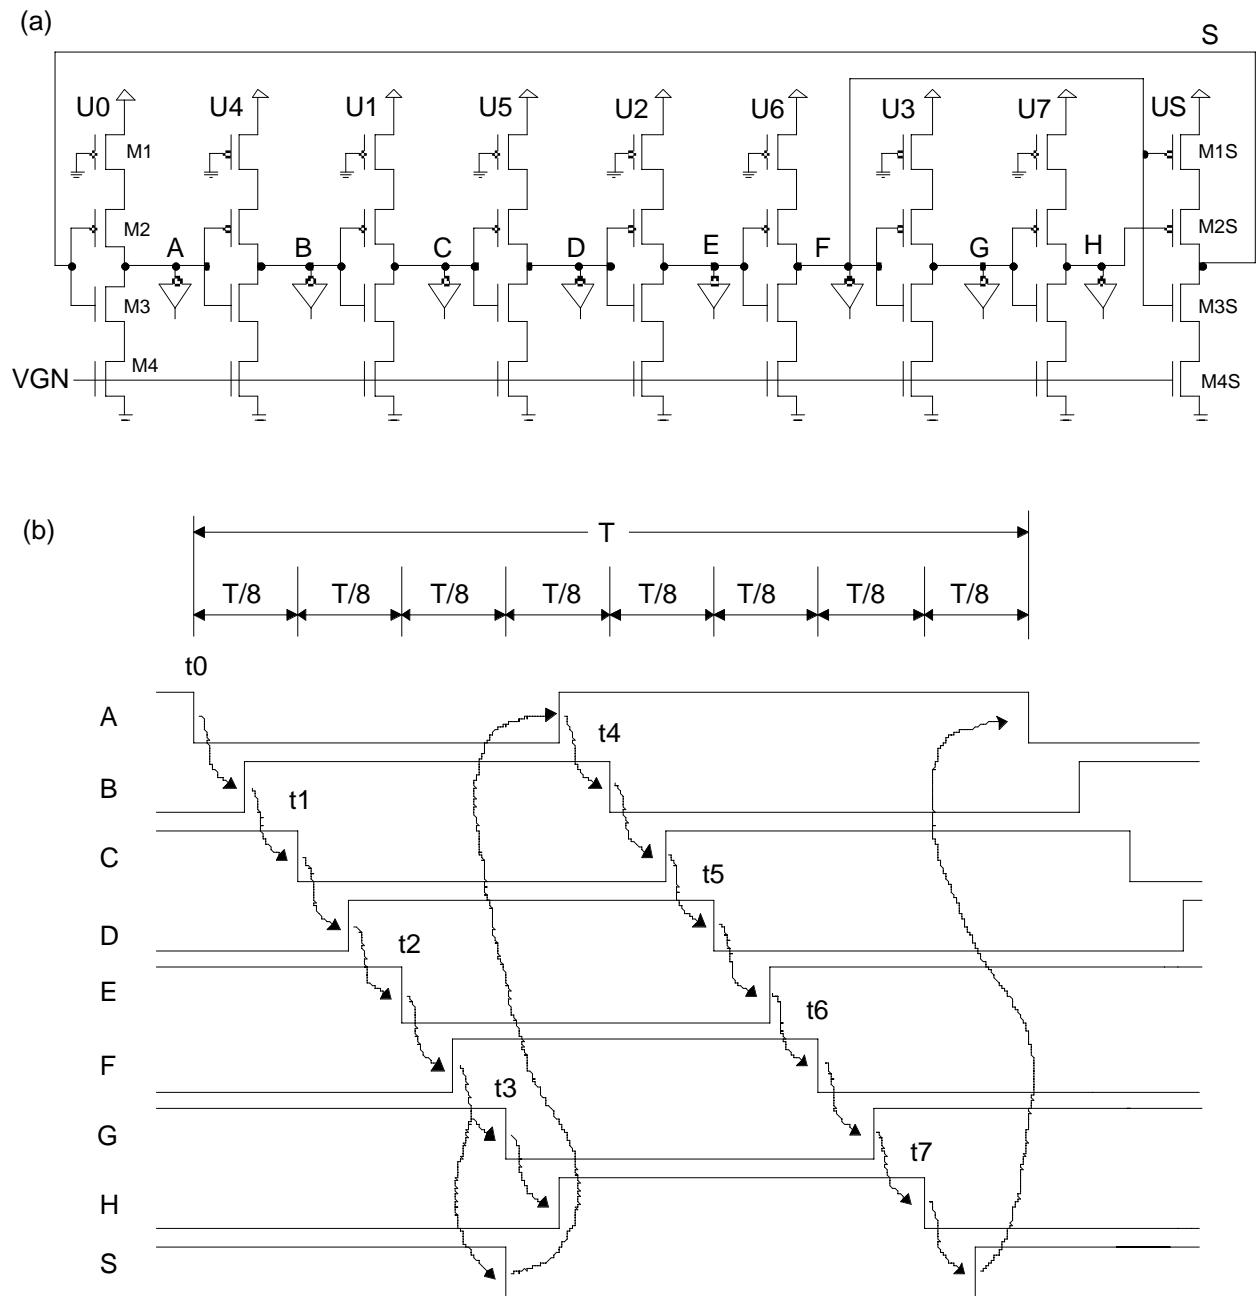

Fig. 2-1 (a) Asymmetric ring oscillator, (b) extracted timing signal.
A new ring oscillator, asymmetric ring oscillator, is implemented, and the oscillation frequency of the oscilltor is 80 MHz. To obtain <1 ns timing resolution, 16 taps are extracted from the oscillator. Fig. 2-1 shows a simplified schematics and its timing diagram of the asymmetric ring oscillator. Fig. 2-1 only shows 8 stages but the actual chip implements 16 stages. The asymmetric ring oscilator was invented to get equally spaced even number (16) of timing signals.